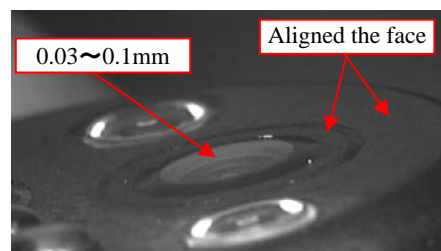

Fig.7-2-6
- f) Align the face of the Ob. lens unit to the face of the Distal Body so that the height of the Ob. lens surface from the face of the Distal Body become within 0.03mm ~ 0.1mm. (Fig.7-2-6)